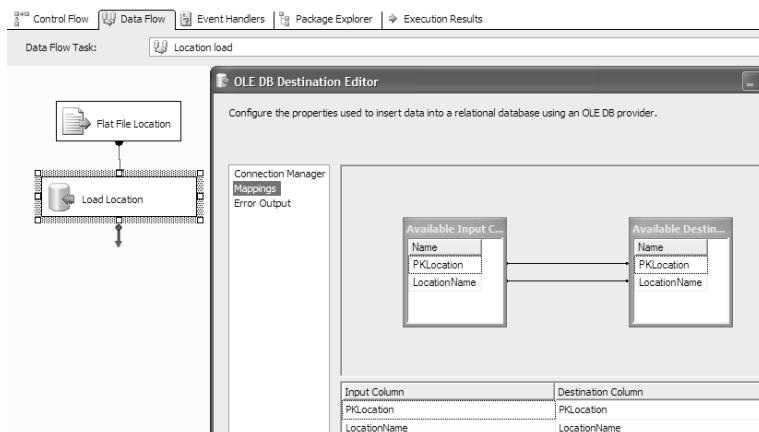

Figure 6.18 Use the OLE DB Destination task to append data to a relational table.
- Double-click on the Load Location task in the Control Flow tab. The SSIS Designer switches to the Data Flow tab (Figure 6.18) to show its data transformation flow which, in our case, consists of two tasks. Note that you can see the data flow of another Data Flow task in the same package by selecting the task from the Data Flow Task dropdown.